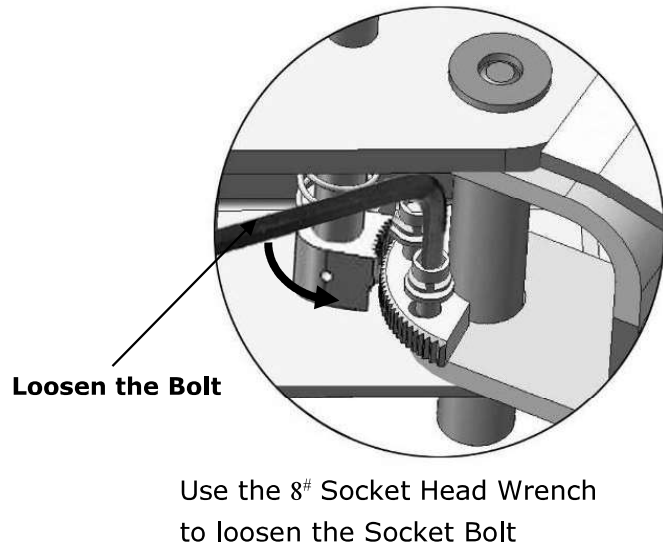

Fig. 35
2. Lowering the carriages down to the lowest position, then use the 8# socket head wrench to loosen the socket bolt (See Fig. 35).